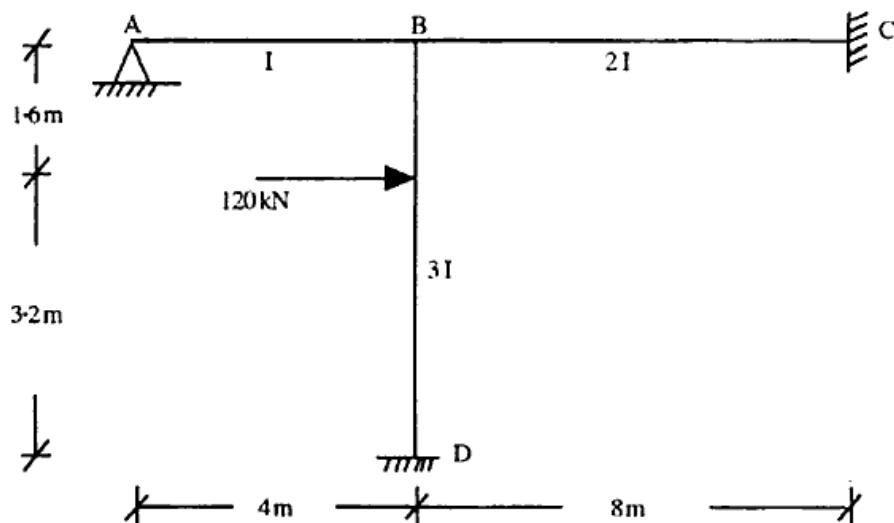

Fig. 11
12. Using Stiffness method, analyse the frame shown in Fig. 11 :—